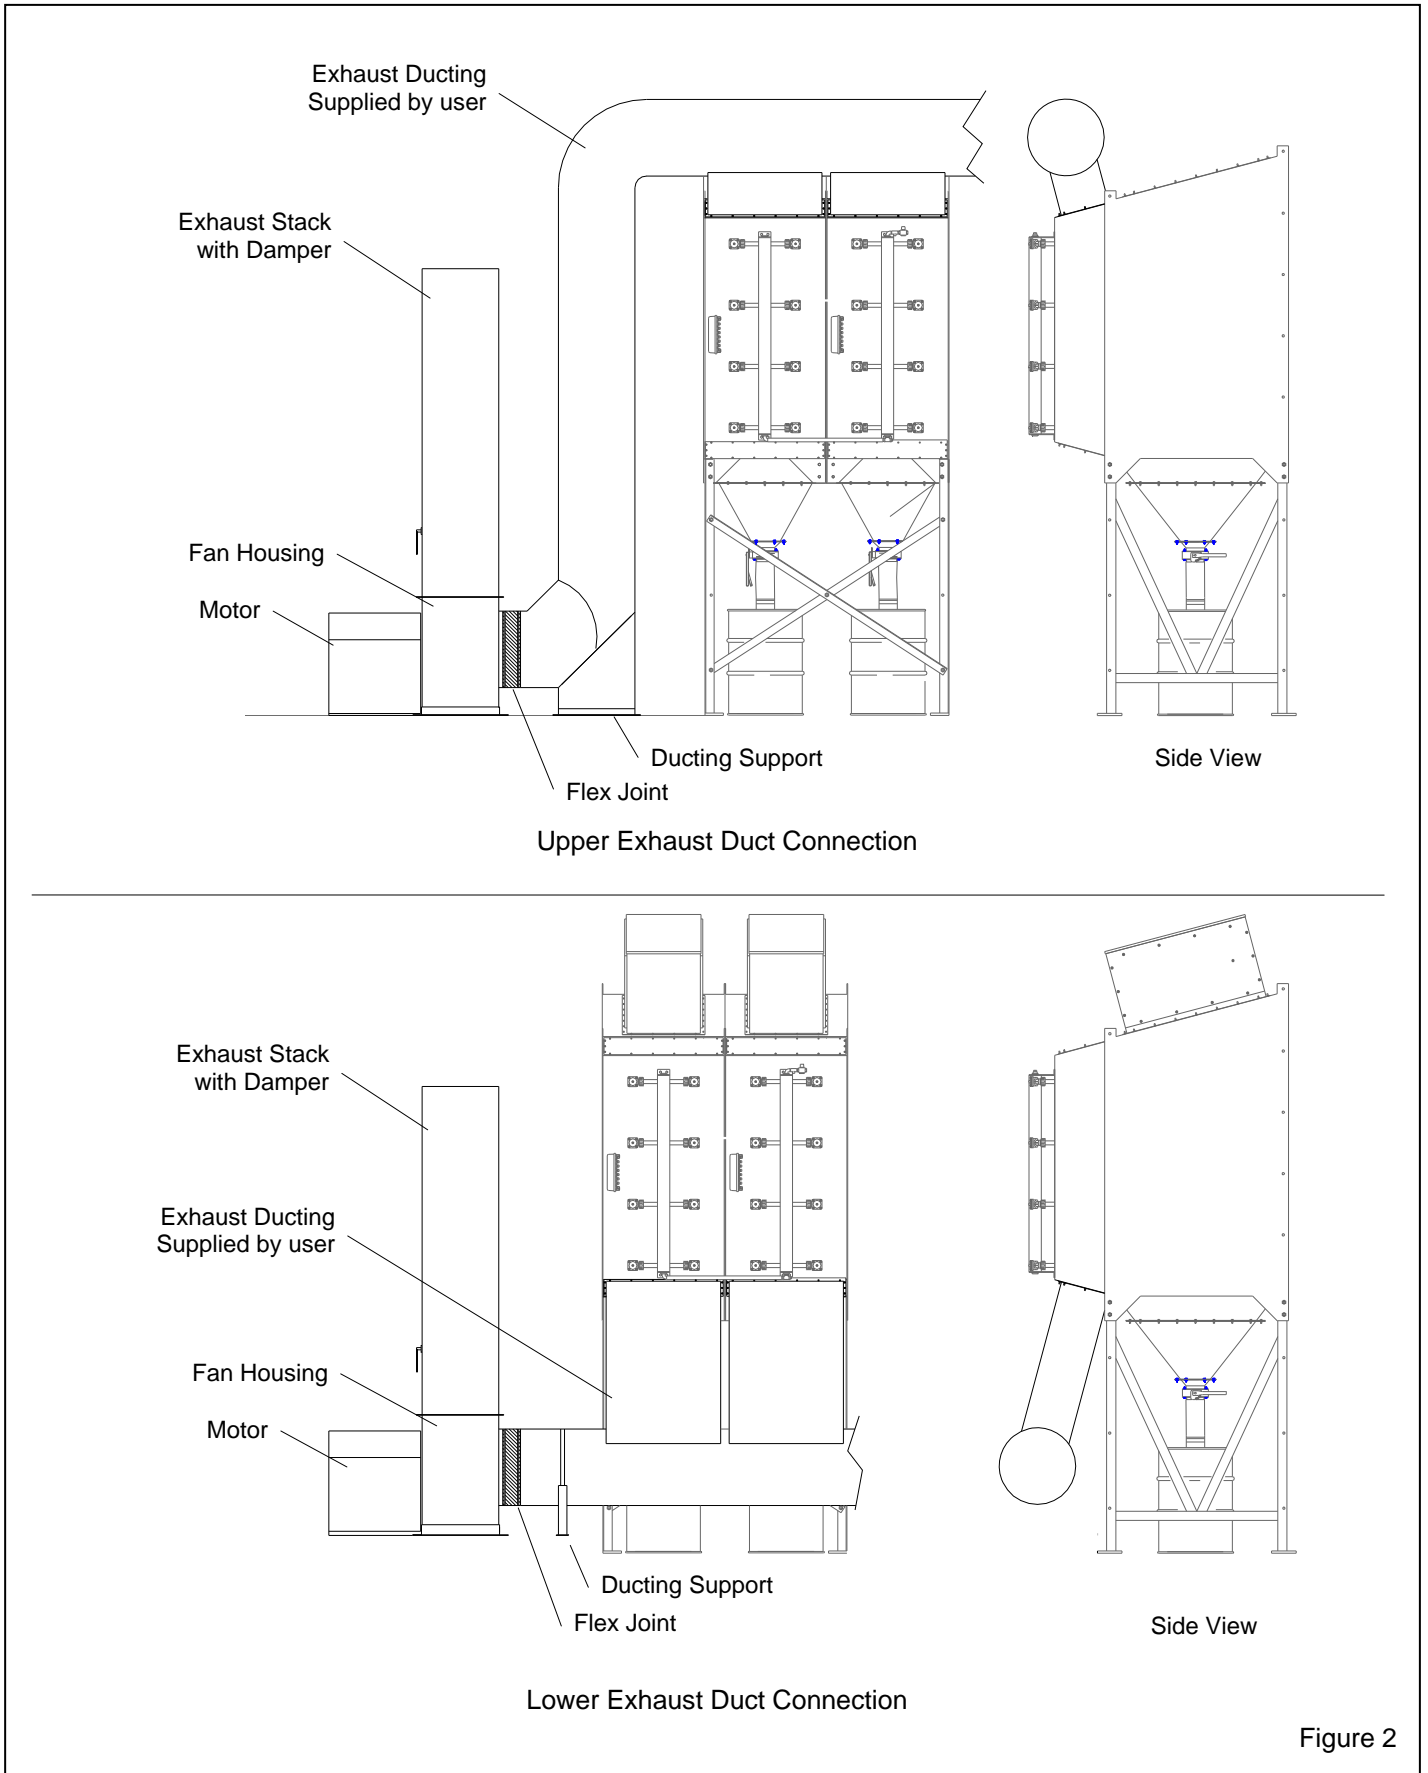

Figure 2
2.6.3.1 The illustration in Figure 2 shows a typical ducting and exhauster arrangement. The illustration is for reference only; it is not to be used to fabricate ducting.